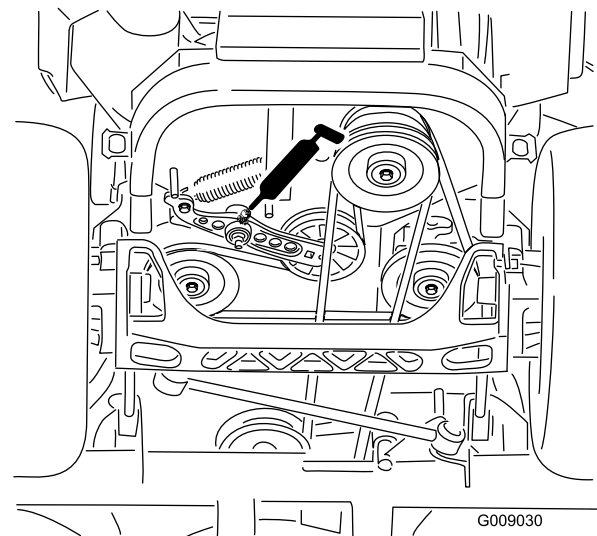

**Figure 54**
5. Grease the mower deck idler-pulley pivot until grease comes out the bottom (Figure 53 or Figure 54).